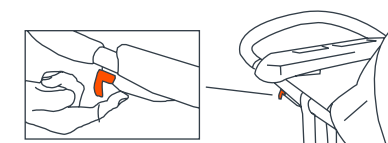
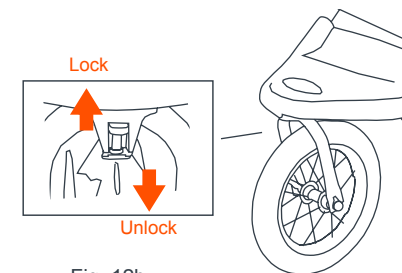

Fig. 12a
Fig. 12b
- 12) •** The swivel jogger is equipped with a front wheel locking device. Fig. 12a is a remote release lever located under the right side handle. Pull to disengage the wheel and push to engage the locking device located under the footrest. Fig. 12b front wheel lock works in a vertical motion from top to bottom, locking and unlocking the wheel.